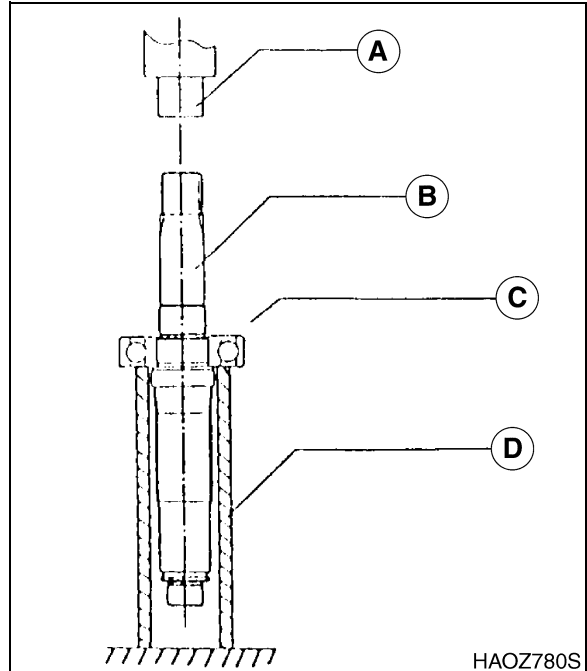

Figure 58
1. Putting clamping metal fitting {II} (D) on the press work bench, and put shaft into it.
2. Remove deep ditch ball bearing (C, Figure 58) (149) with holding down the shaft tip (B) parts by a press (A).